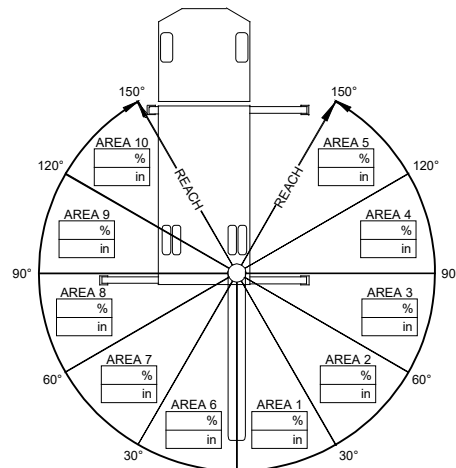

Figure 23 Stability Chart
- At the balance point, retract the extension boom until stability is regained. Measure the horizontal reach in this position (center of rotation to boom tip). This is the stable horizontal reach in this zone. Note this reach in *Figure 23*.
a point of instability re-occurs, retract the extension boom until stability is regained. Again, measure the stable horizontal reach at this point, and note this distance in *Figure 23*.
7. Repeat this cycle through a full 180°. Complete all of the reach boxes for Areas 1 through 5 in *Figure 23*.
9. If the crane was stable in all areas, fill in 100% in all of the percentage boxes in *Figure 23*.
11. Enter the de-rated percent of full capacity obtained in area 10 in *Figure 23*. In the de-rated zone, each individual capacity on the capacity chart must be multiplied by the de-rated percent of full capacity.